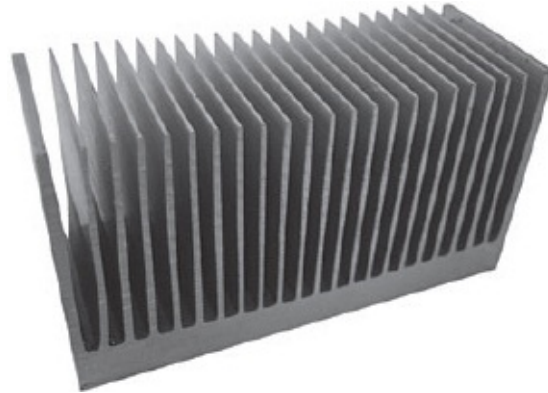

Fig. 7.13: Heat sink
2. Overheating of integrated circuits (ICs) and transistors in electronic devices can drastically affect their performance. Such components are fixed to a heat sink (a metal plate) to conduct away undesired heat, see figure 7.13.